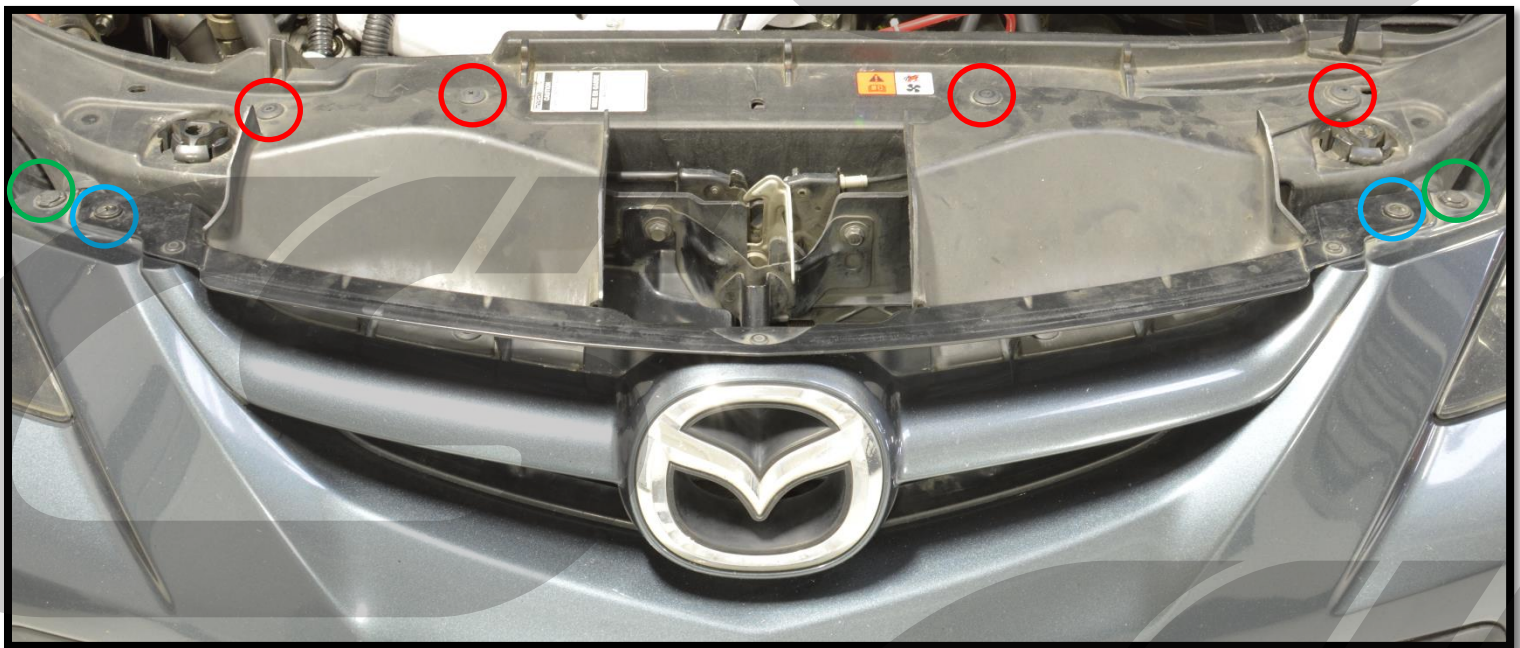

Figure 2a
- a) Under the hood, remove four (4) phillips head push clips from the inlet ducts. Circled in red in Figure 2a.
- b) Remove two (2) phillips head screws from the top of the grill. Circled in blue in Figure 2a.
- c) Remove two (2) push clips from near the headlights. Circled in green in Figure 2a.